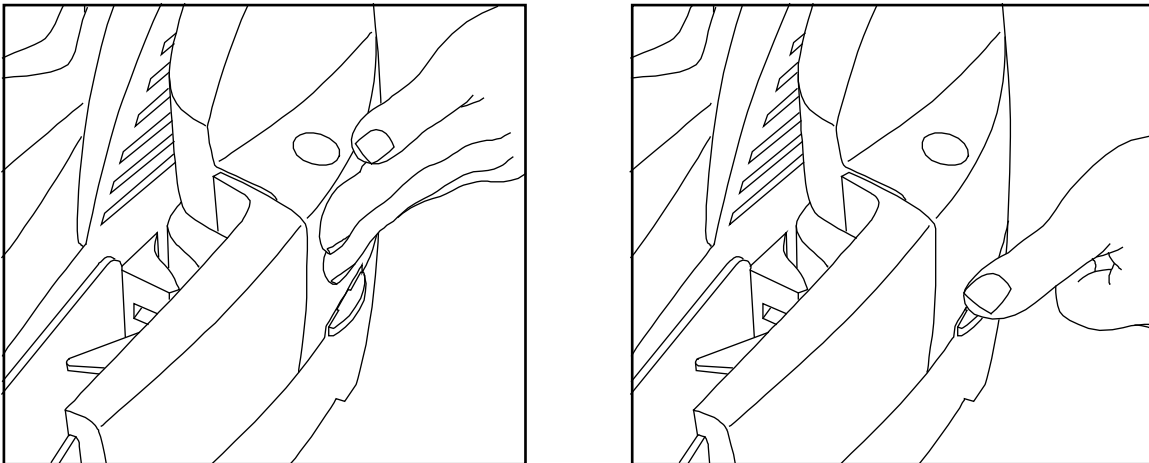

Figure 2-5. Closing the Unit
1. Push to close the access guide (Entry Access Guide or Exit Access Guide) to its normal operating position (as show in Figure 2-5).
3. Push down on the tab of the access guide (as shown in Figure 2-5). If the tab was not latched, a “click” sound will be heard as feedback to indicate the access guide is securely closed.